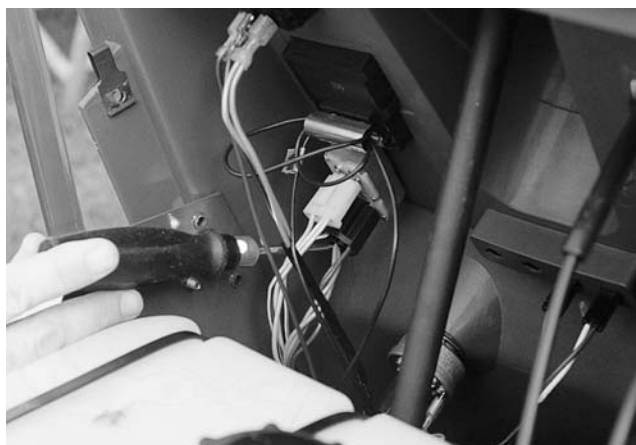

Figure 3-42.
2. If there is no voltage, check for voltage at the red wire at the PTO switch. If no voltage, check for voltage at the ignition switch. See Figure 3-42.